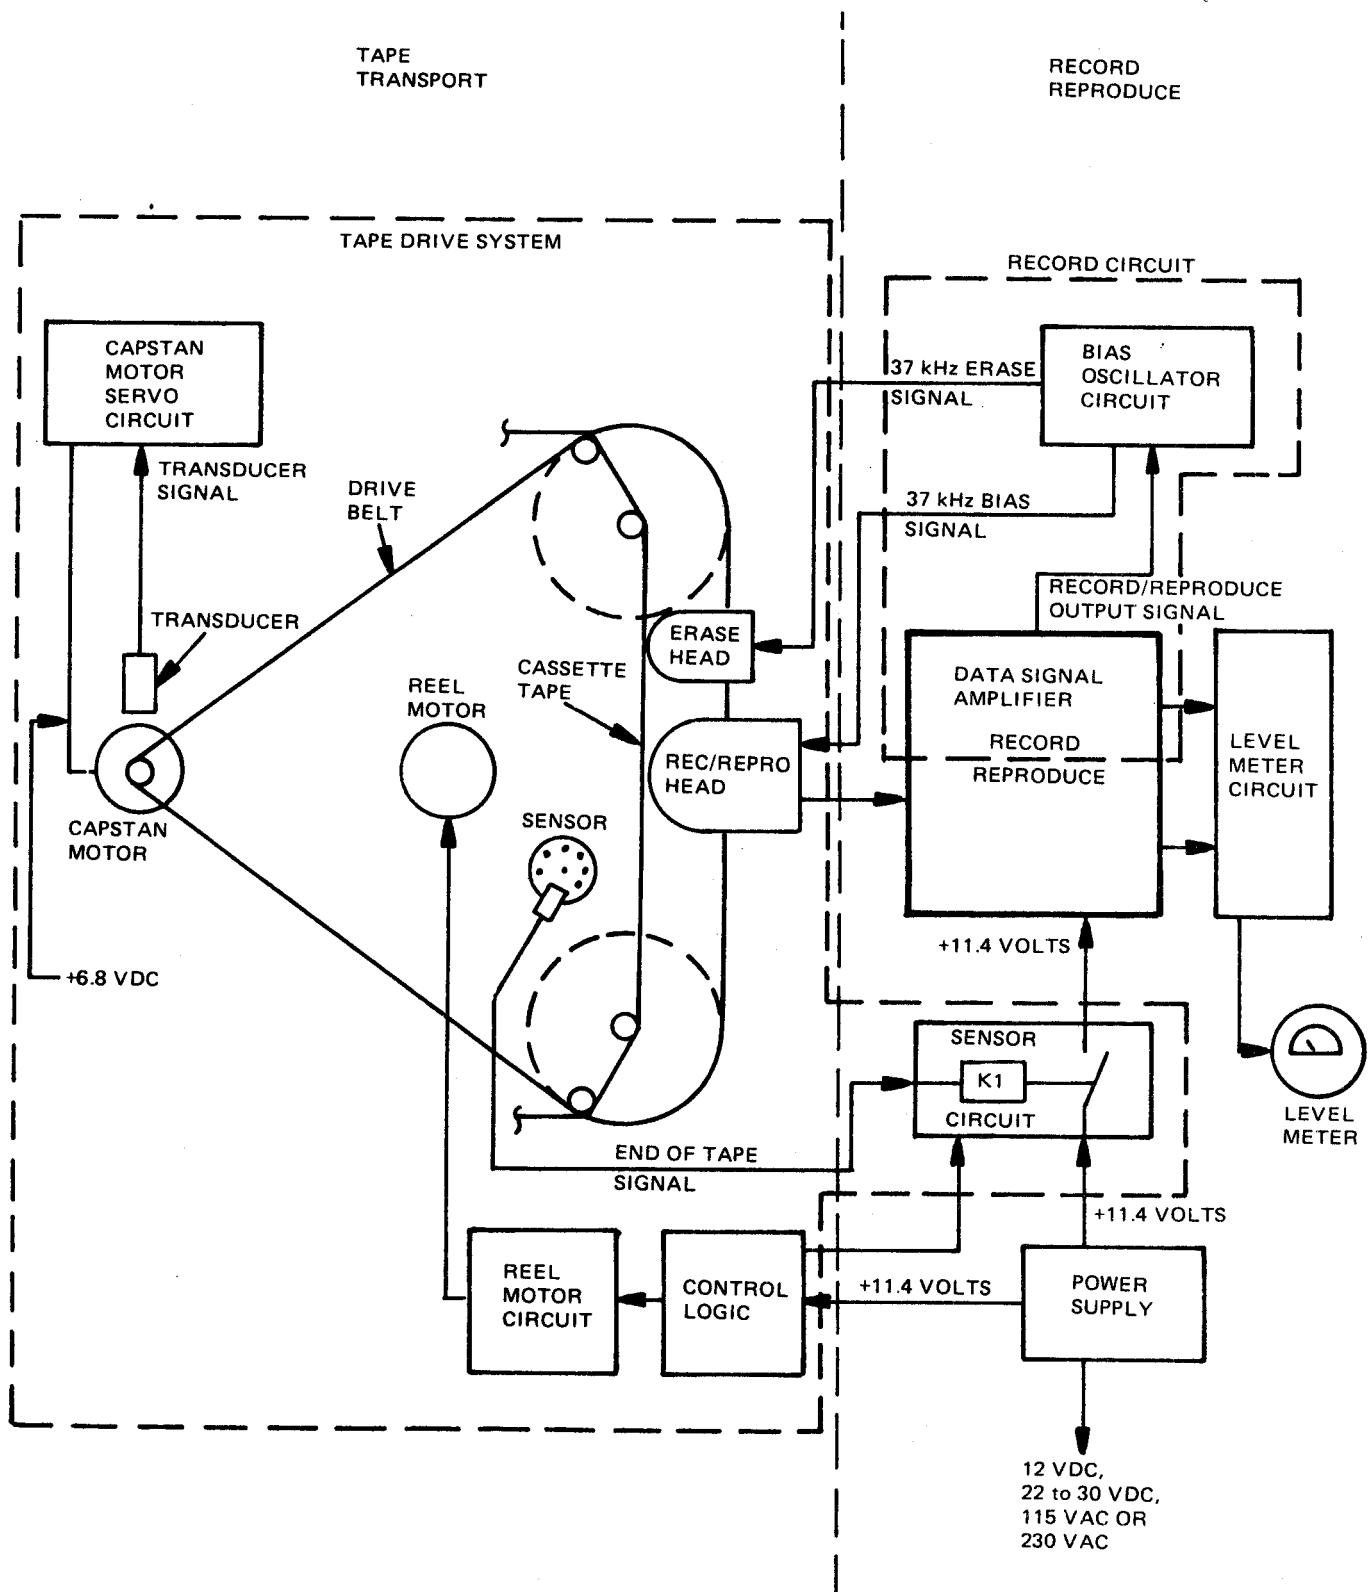
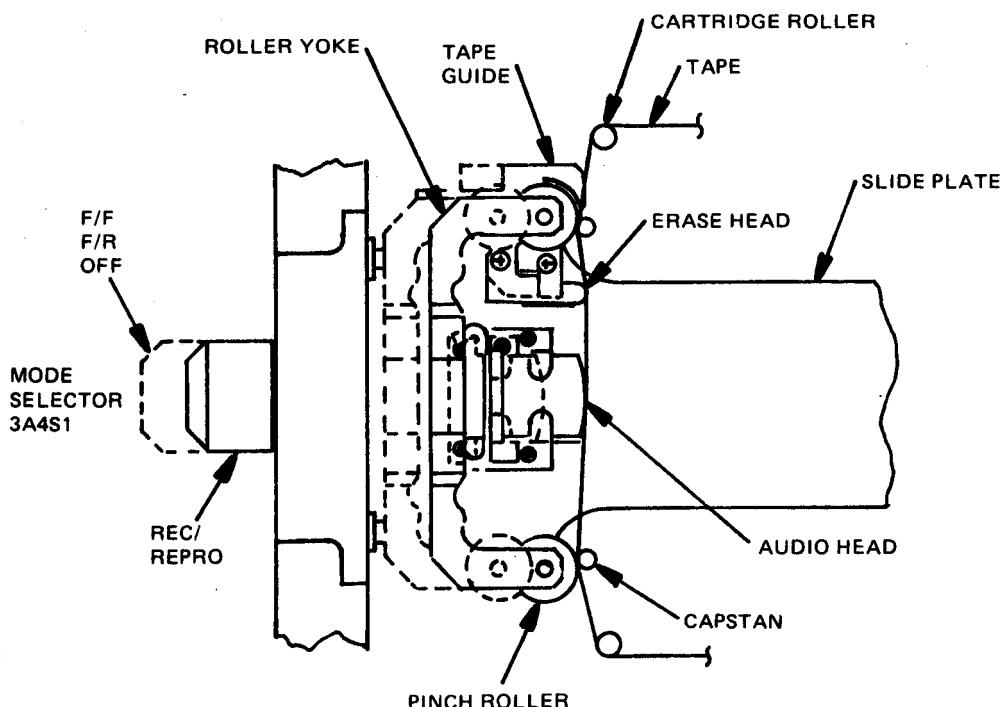

Figure 3-1. Recorder Simplified Block Diagram
Figure 3-2. Capstan/Pinch Roller Tape Drive
(1) Recording technique. Standard direct recording techniques are used in which a direct record amplifier records the time relationship of analog input signals directly on magnetic tape. Basically, the record circuit is composed of two sections: a data signal amplifier and a bias oscillator. The signal amplifier amplifies the input signal and provides a current source to drive the record head with signals proportional to the applied input signals. This creates, in the magnetic oxide coating of the tape, magnetic flux changes which correspond in intensity and timing to the input signals. Since the flux density in a magnetic medium does not vary linearly with the magnetizing force, the data signal is superimposed on a high frequency (38 kHz) bias signal to overcome the hysteresis nonlinearity of the magnetic tape. A symmetrical low distortion bias signal is adjusted to optimize system parameters such as frequency response, signal-to-noise ratio, and distortion. The data signal is adjusted for re-recording at normal record level (3 percent third harmonic distortion upon reproduction of a 400 Hz signal at an input record signal level of 0 dBm.) The bias and data signal record levels are both a function of the characteristics of the record head and the magnetic tape used and must be adjusted accordingly.
(2) Equalization technique. Two techniques are commonly used for direct recording of signals on magnetic tape. One of these, known as constant flux recording is used in instrumentation applications in which there is an equal probability of high level signals at any frequency within the passband to be recorded. For audio applications, in which the spectral energy of the signal to be recorded diminished with increasing frequency, a pre-emphasized or "pre-equalized" recording technique is used to allow optimum utilization of the recording medium. Pre-emphasized recording is the method used in this recorder.
(3) Recorder functional sections. Refer to figure 3-1. The recorder is functionally divided into the electromechanical tape drive system, the control logic electronics, the data signal electronics, and the plug-in power supply. The recorder, which is the major functional assembly, consists of a rigid chassis upon which all of the required electronic subassemblies and the mechanical tape handling subassemblies are mounted, enclosed in a protective housing. The chassis assembly and the control panel (which form an integral component) slide into the case and are secured by four screws. A gasket between the front panel and the case provides a moisture seal and electrical continuity to prevent RFI radiation. The chassis provides mounting facilities for an electromechanical capstan drive system, and electromechanical reel drive system, and the modular electronic circuits to control the tape handling components and signal processing.
(4) Tape drive system. The purpose of a recorders to make a record on tape of signal data which may be recovered in its original form at a later date. This is accomplished by moving a magnetic tape past a record head. The input data signal changes the magnetic field generated by the head, which in turn changes the magnetic flux of the iron oxide particles on the tape in accordance with the applied signal. Data is then reproduced by moving the magnetized tape past a reproduce head to induce a voltage in head windings equivalent to changes in flux. Since, in analog recording the data signal is a function of the time and amplitude of the magnetic field, it is essential that the tape be moved past the reproduce head at the same rate it was moved past the record head originally. Therefore, the primary function of the tape drive system is to move the magnetic tape in a smooth and uniform manner past the record and reproduce heads to preserve the fidelity of the data signals with regard to time. This is accomplished by a dual capstan drive system when the unit is operated in the record or reproduce mode. In the modes F/F (i.e., Fast Forward) and F/R (i. e., Fast Reverse) the tape is moved by the reel drive system only and speed is not regulated.
(5) Capstan drive system. Refer to figure 3-2. The recorder uses a dual capstan drive to provide positive control of tape motion. During recording and reproducing, the tape leaves the supply reel (in cassette), is fed over a tape guide between the input capstan and pinch roller, and past a tape guide to the takeup reel (in cassette). The stability of the linear speed of the surfaces of the capstans determines the precision with which the tape is moved in the record and reproduce modes. For this reason, a capstan motor servo circuit (figure F0-6) is used to minimize speed than ges of the capstan drive motor due to variations in torque loading supply voltage. The capstans are belt driven by the servo controlled drive motor and the pinch rollers clamp the tape to the capstans in the record and reproduce modes. Since the capstan drive pulleys have slightly different diameters, the capstans operate at slightly different speeds with the exit capstan rotating slightly faster than the input capstan. This differential speed produces a controlled tension in the head area which greatly reduces the possibility of tape-to-head separation during vibration, shock, or acceleration. The mode selector switch on the front panel is mechanically attached to the slide plate assembly so that the pinch rollers are engaged and the audio head is in contact with the tape when the record or reproduce modes are selected. When the mode selector switch is in the F/F mode, F/R mode, and OFF mode, the pinch rollers and head are retracted and tape movement is controlled by the reel motor drive system.